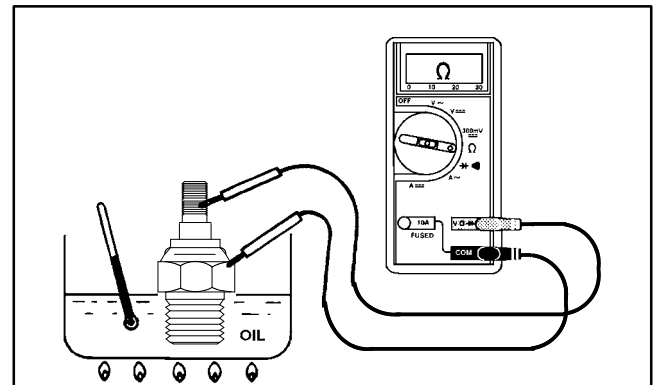

Figure 58
3. Put sender in a container of oil with a thermometer and slowly heat the oil (Fig. 58).